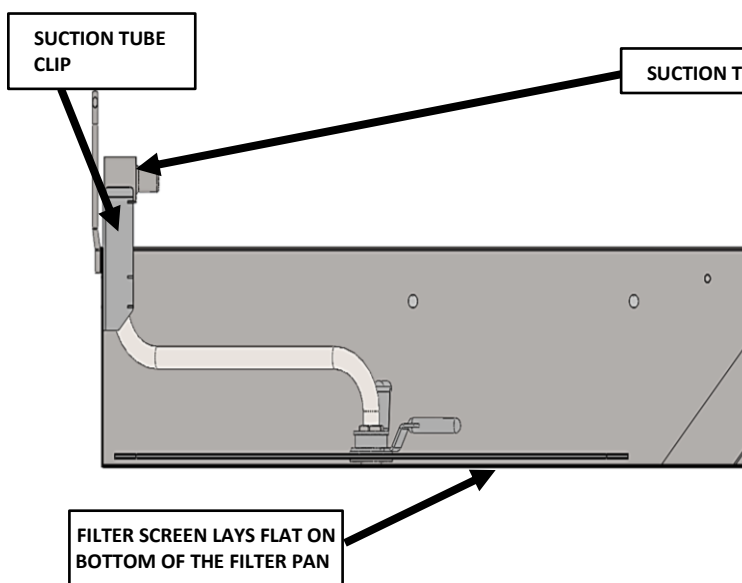

Fig.1
- Carefully line up the suction tube so that it mates with the oil receptacle block mounted on the frame of the fryer battery. Close the filter pan drawer. See Figures 1 and 2.